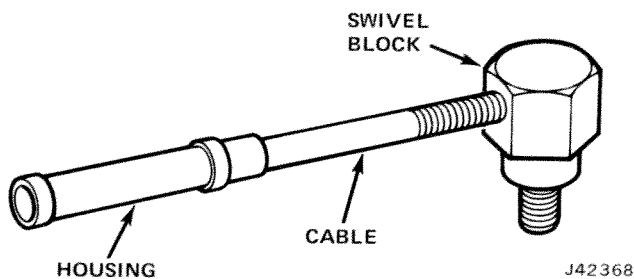

Fig. 8-17 Low Range Swivel Block
- (1) Remove swivel block from control lever.
- (2) Move reduction unit control lever to most forward position.
- (3) Thread swivel block in or out on cable end to obtain free fit in reduction unit control lever (fig. 8-17).
- (4) Secure swivel block to control lever.
- (5) Check operation of reduction unit.